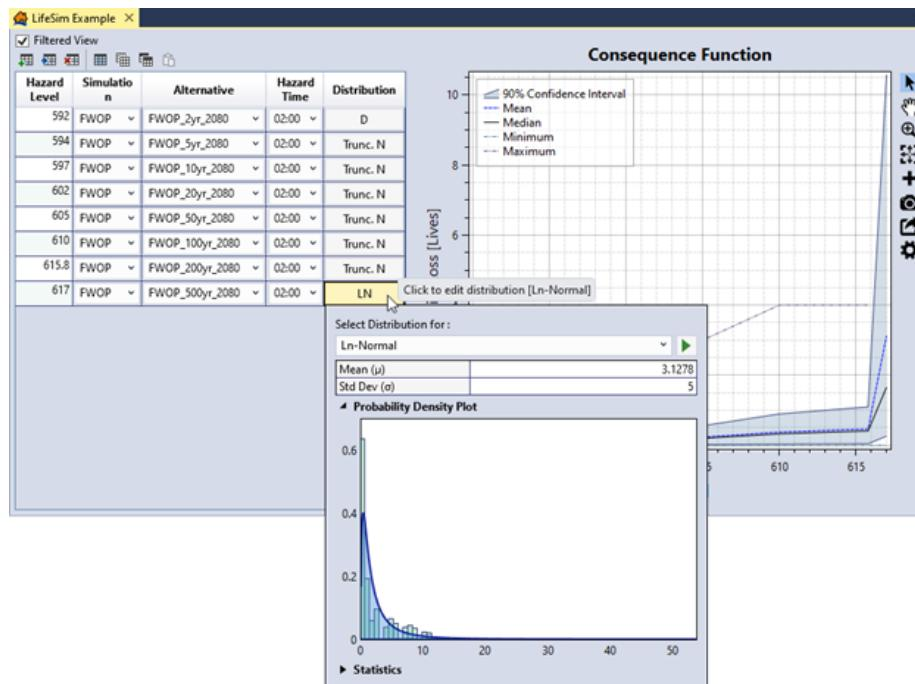

Figure 9.3: LifeSim consequence function tabbed document.
The LifeSim consequence function is created in the Tabbed Document (Figure 9.3). Use the table on the left to enter hazard levels (e.g., reservoir pool elevations or river flows) and LifeSim simulation results. A graphical representation of the function displays to the right of the table.
2. For each defined hazard level, select a LifeSim simulation result from the dropdown menu(s). Navigate the LifeSim results more easily by using the **Filtered View** check box to filter the cell contents to only contain results from the selected simulations/alternatives/times of day. For example, in Figure 9.3 the only options in the alternative column are from the future without project (FWOP) simulations and the available hazard time(s) are based on the selected simulation-alternative combination.